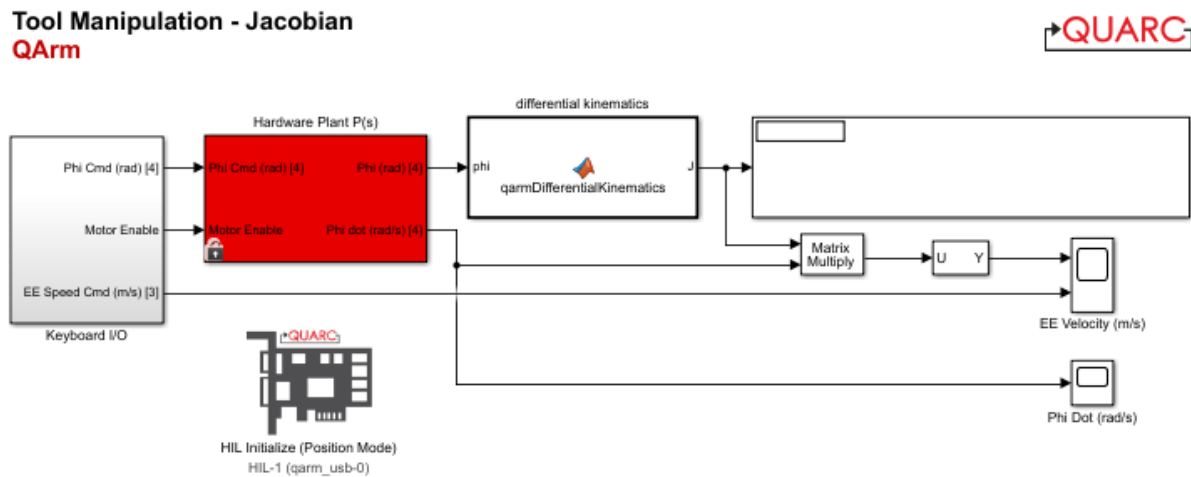

Figure 1 - Jacobian Simulink Model
9. Analyze the cases one at a time, while checking the state machine diagram Figure 1 in the Tool Manipulation Application Guide. If start is true, you want to transition to State 2, and if not, you want to remain in state 1. Complete lines 22 and 24 to reflect this transition.